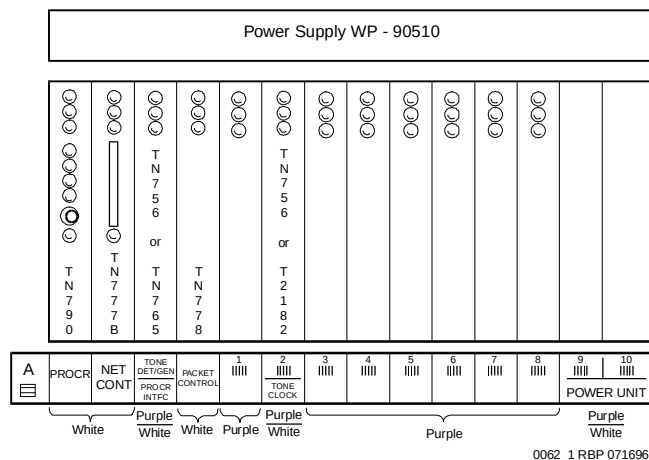

Figure 9-6. Circuit-Pack Locations in DEFINITY ECS R5vs Wall-Mounted Cabinet
1. Label each port circuit pack in the DEFINITY ECS R5vs with its slot number. See Figure 9-6.